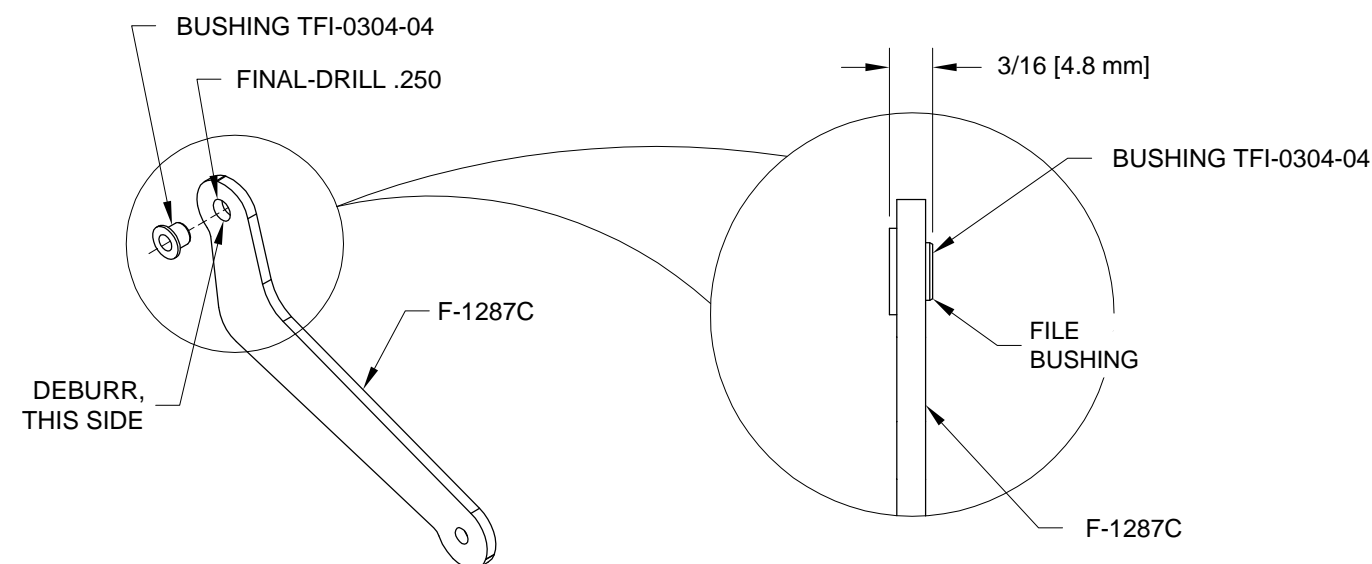

FIGURE 3: INSTALL BUSHING
Step 6: Deburr the F-1287C Link called out in Figure 3.
Step 7: Insert the polymer bushing into the F-1287C Link as shown in Figure 3.